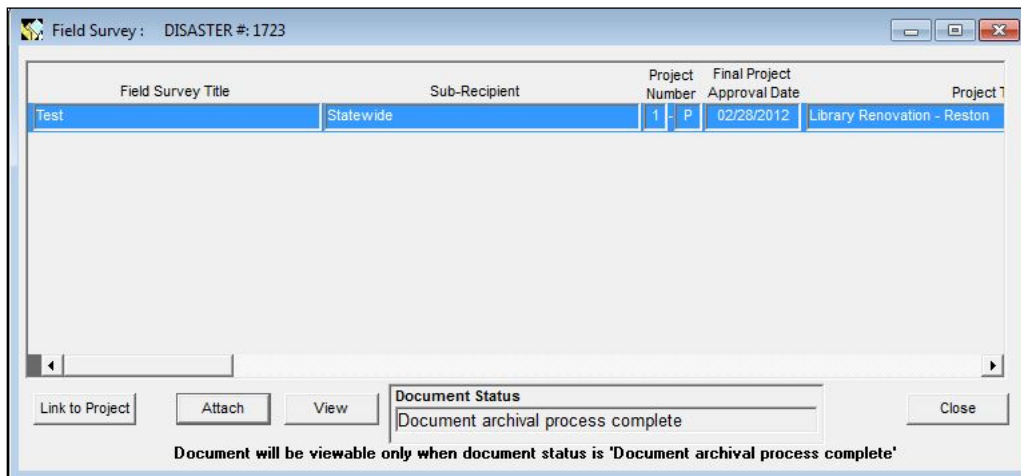

Figure 11-2: Field Survey Screen - Left Side
2. The Field Survey screen is displayed (Figures 11-2 and 11-3).